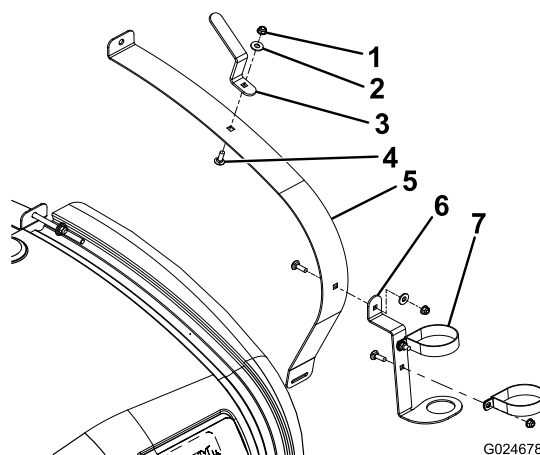
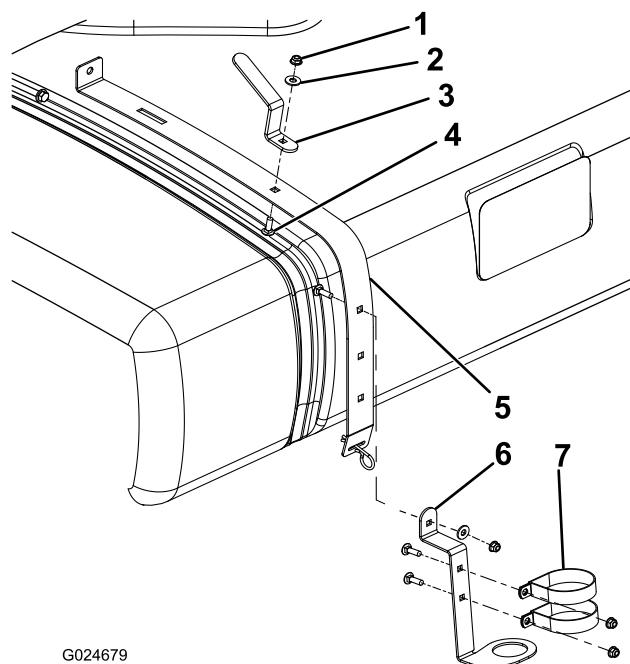

Figure 1
Figure 2
- For the Multi Pro 1750, loosen the front, right-hand tank strap (Figure 1).
- For the Multi Pro WM, loosen the rear, right-hand tank strap (Figure 2).
3. Install the spray gun bracket as shown in Figure 1 or Figure 2 using a carriage bolt, flat washer, and flange-head nut.
4. Install the hose hook as shown in Figure 1 or Figure 2 using a carriage bolt, flat washer, and flange-head nut.